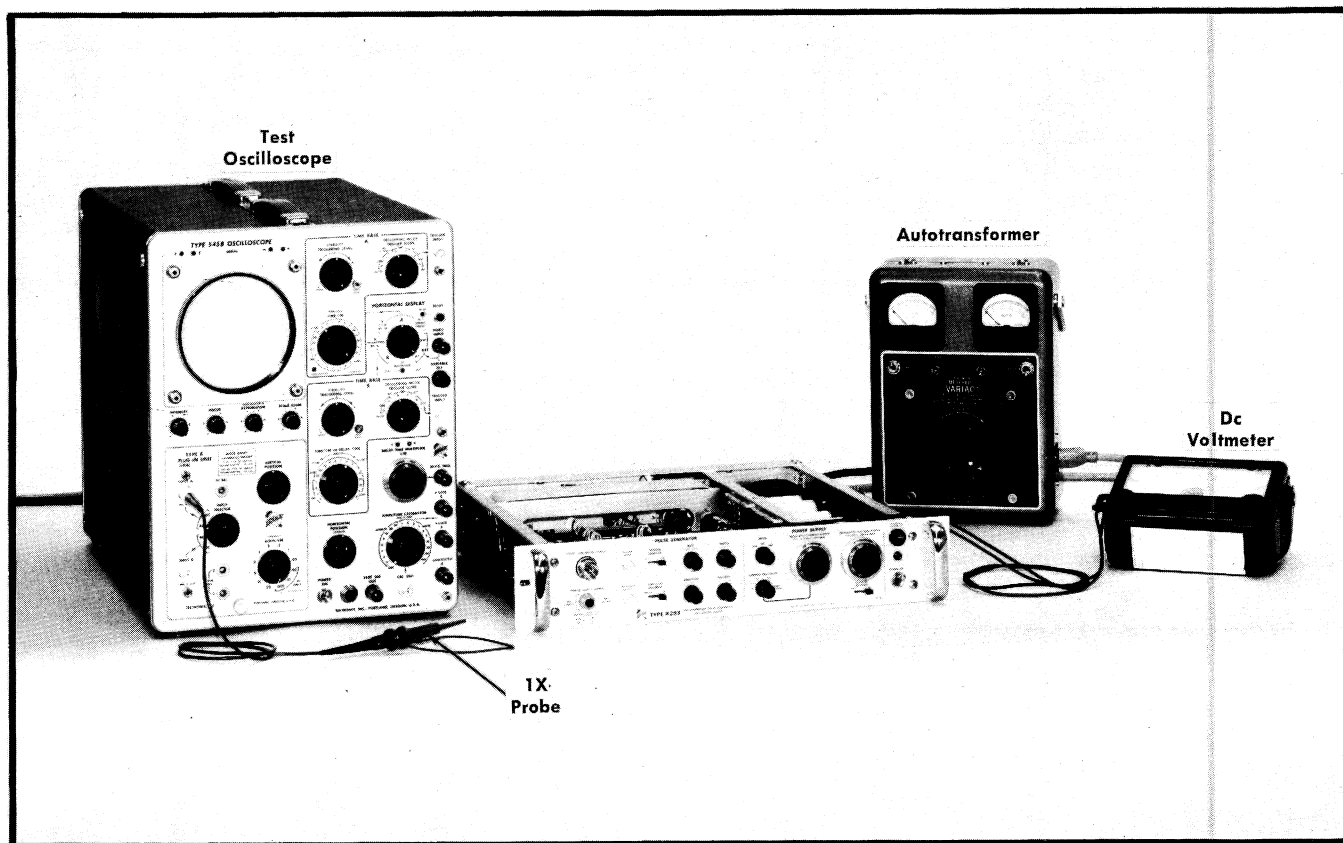

Fig. 6-21. Initial test equipment setup for steps 19 through 32.
- Test equipment setup is shown in Fig. 6-21.
- a. Test equipment setup is shown in Fig. 6-21.
- f. Return the autotransformer output voltage to 115 (230) volts.
- Return the autotransformer output voltage to 115 (230) volts.